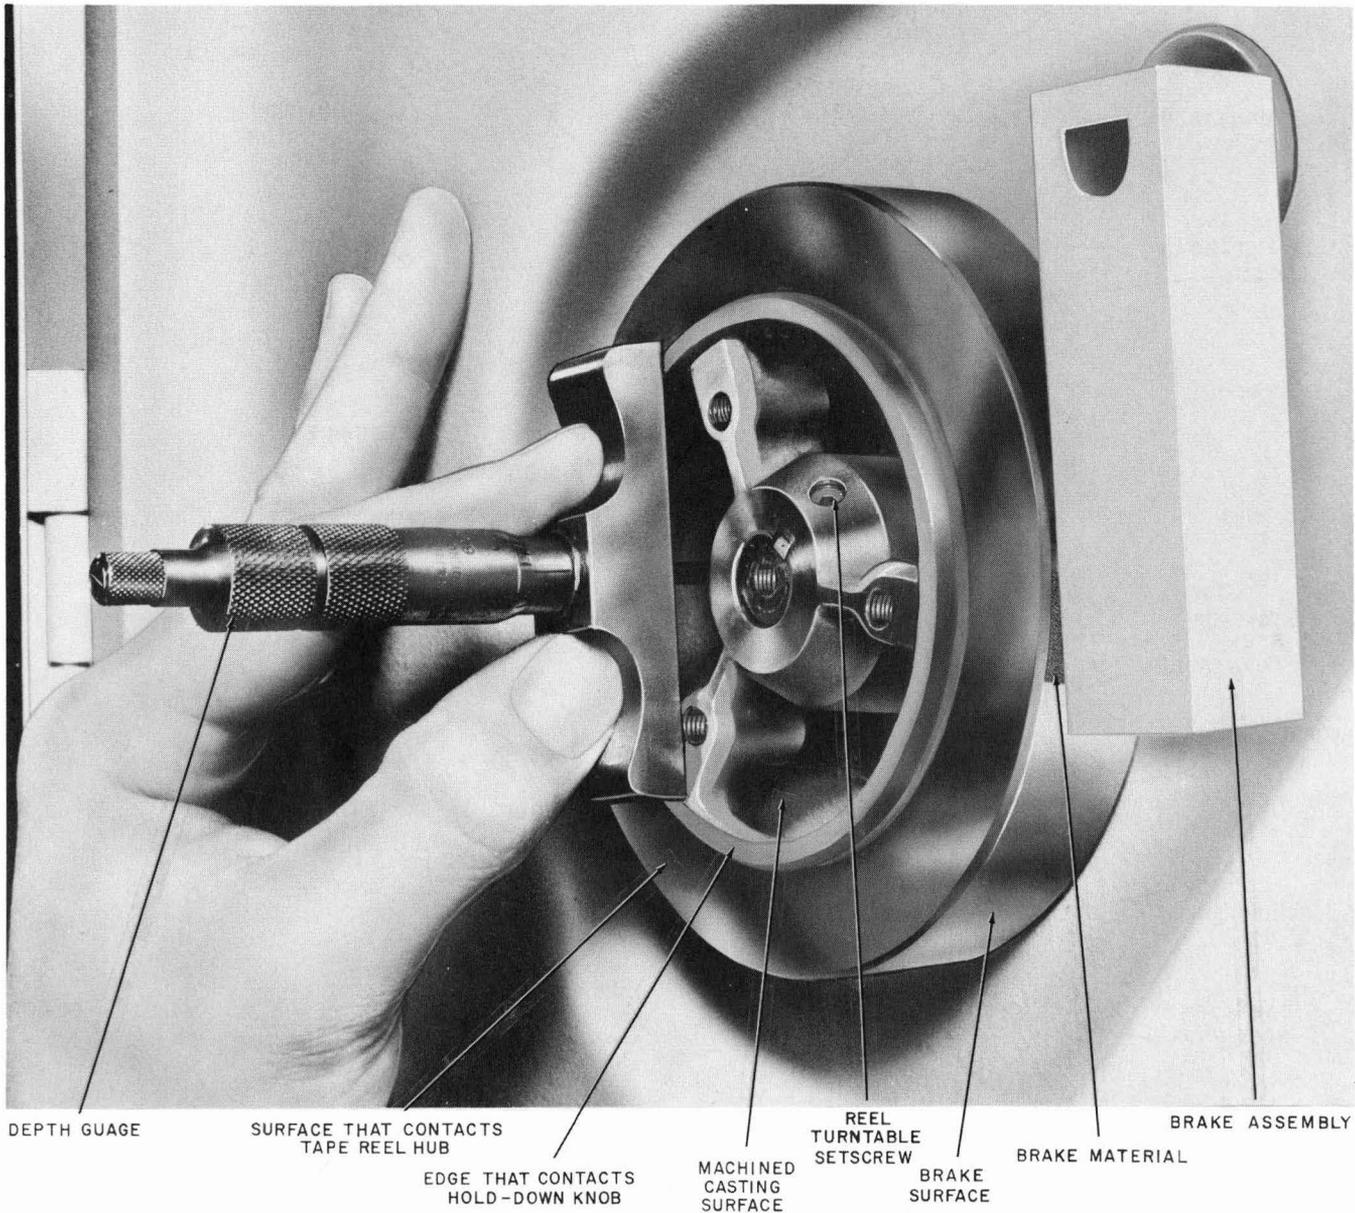

Fig. 3—Reel Turntable Showing Height Measurement
(e) **Reel Turntable Brake Surface:** The brake surface of the turntable (Fig. 3) and the brake material shall be kept free of dust, oil, and grease.
***2.05 Reel Turntable Alignment:** The distance between the edge of the reel turntable (Fig. 3) which contacts the hold-down knob and the machined casting surface surrounding the turntable shaft shall be 0.969 ± 0.005 inch. This dimension provides alignment of tape with the tape
(5) Using the micrometer depth gauge (Fig. 3), check requirement by measuring from hold-down knob edge of reel turntable to machined surface of casting.